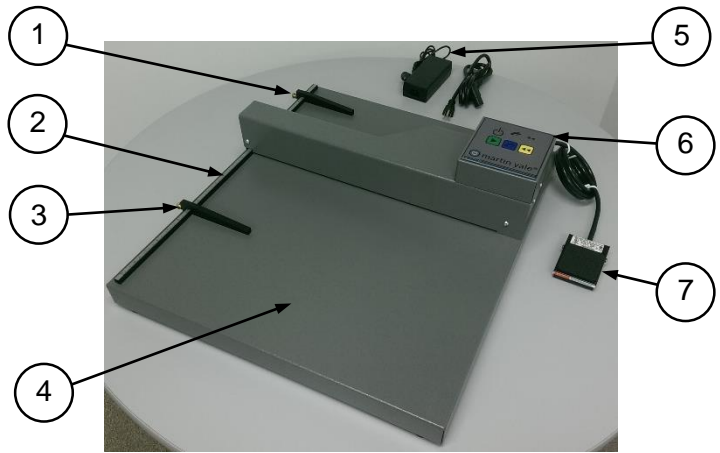
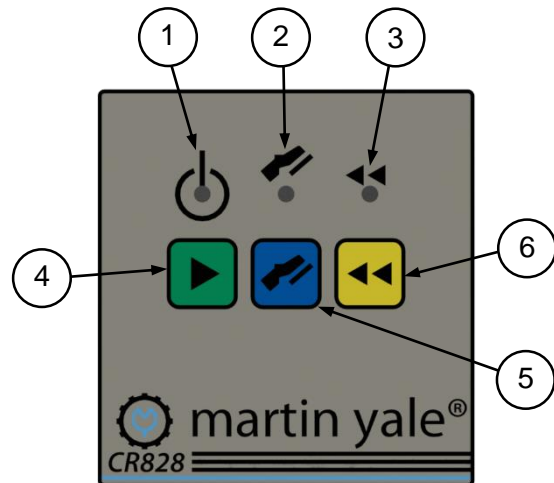

FIGURE 1: Overview
FIGURE 2: Control Panel
3.1 Overview (Figure 1)
3.2 Control Panel (Figure 2)
- 4.5 Remove two (2) Paper Stops from packaging and install as shown. (Figure 1)
- 4.7 Plug the Power Adapter into the back of the machine next to the Foot Pedal cable, then plug the Power Adapter into power outlet. (Figures 1 and 3)
- 5.2 The Footpedal control is turned on by default; to turn off the Footpedal, press the center button on the Control Panel. (Figure 2)
- 5.4 While holding paper in place, press the Footpedal (Figure 1) or Cycle Pushbutton (Figure 2).
- 1. Press the Reverse (Dejam) Pushbutton (Figure 2). The Reverse (Dejam) Indicator light will now be lit continuously.